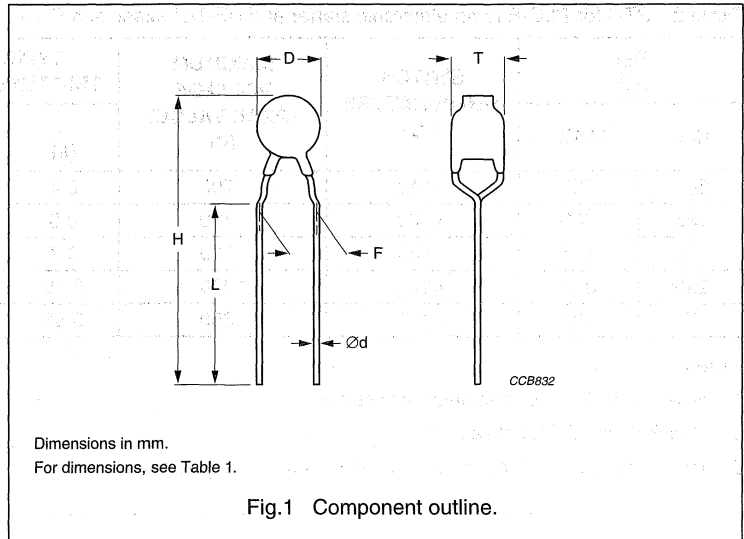

Fig.1 Component outline.
- Small size and rugged construction; see Fig.1.
Table 1 Physical dimensions; see Fig.1